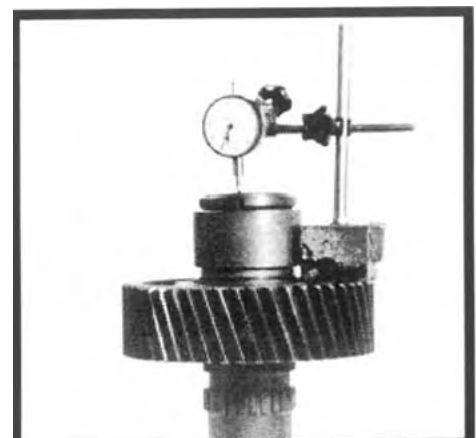

Figure 6.19
10. Install a dial indicator as depicted in Figure 6.19. Lift upward on the gear assembly and note the gear end float on the dial indicator. If the end float is not within specification (.000 to .002 inch), it will be necessary to disassemble the shaft by performing Steps 2 and 3 under "FRONT OUTPUT SHAFT DISASSEMBLY" in Section 4. Measure the thickness of the original spacer ring and select a new ring to provide end float within specification. See item 10 in Section P.5 in the parts manual for a list of available spacer rings. Be sure to recheck the gear end float after a new spacer ring is installed.